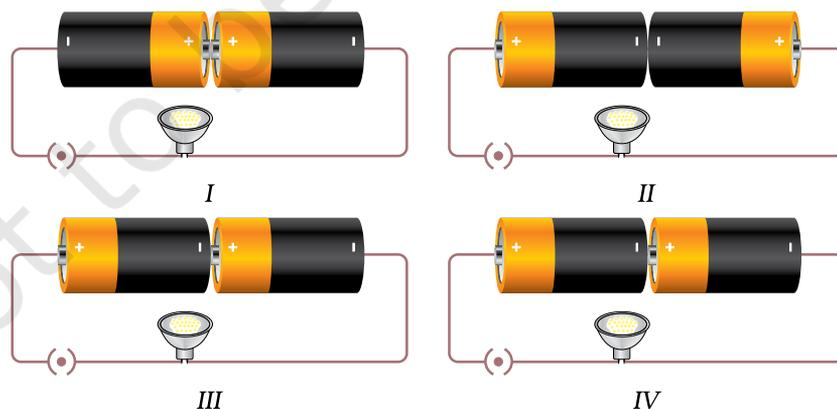

Figure 41.3
- Take two cells and arrange them in a circuit as shown in Fig. 41.3. In which of the cases will the bulb glow and why?